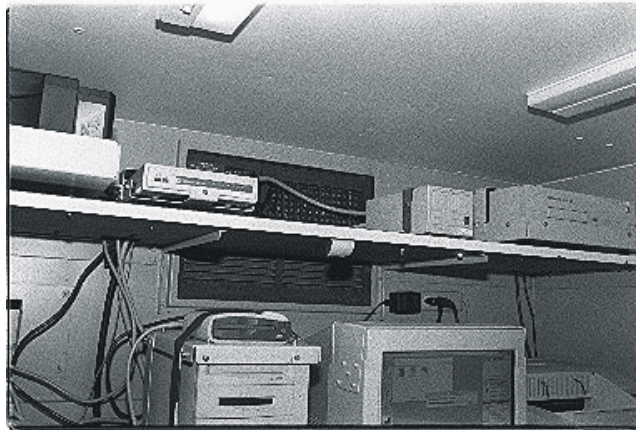

Figure I-1. SPEPS.
a. The SPEPS is a state-of-the-art, still image editing and processing system consisting of commercial-off-the-shelf/nondevelopmental items. (See Figures I-1 and I-2.)